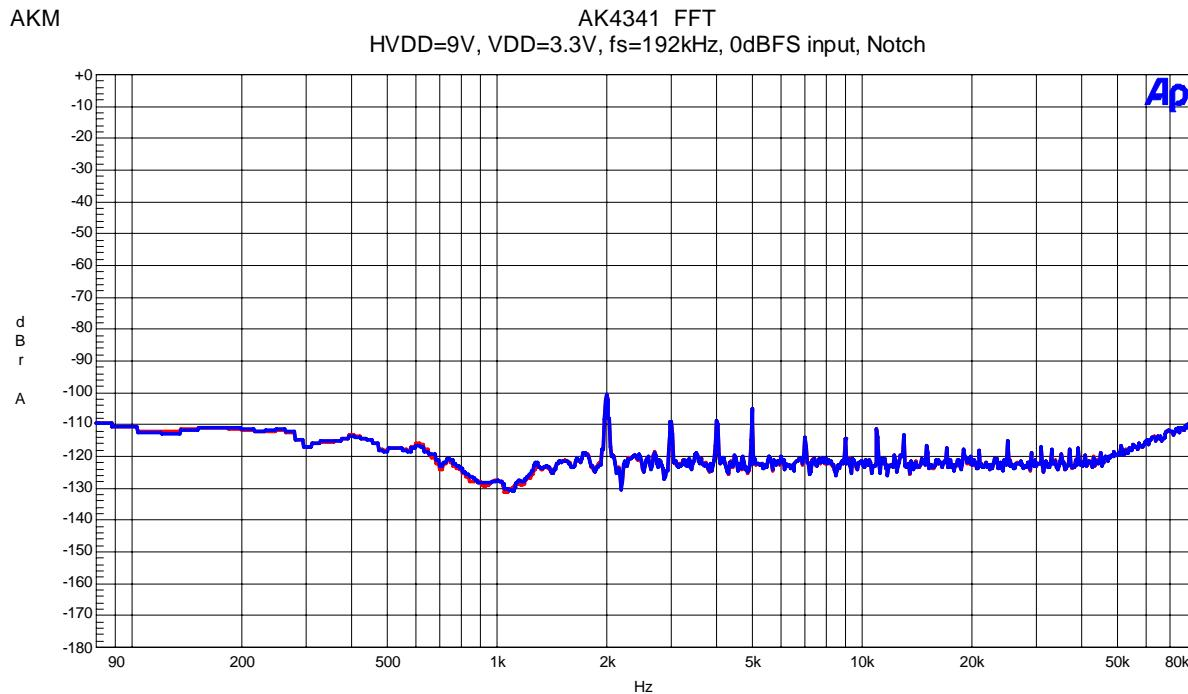

Figure 28. FFT(Input Frequency=1kHz, Input Level=0dBFS, Notch-on)
- Figure 28. FFT (Input Frequency =1kHz, Input Level =0dBFS,Notch-on)